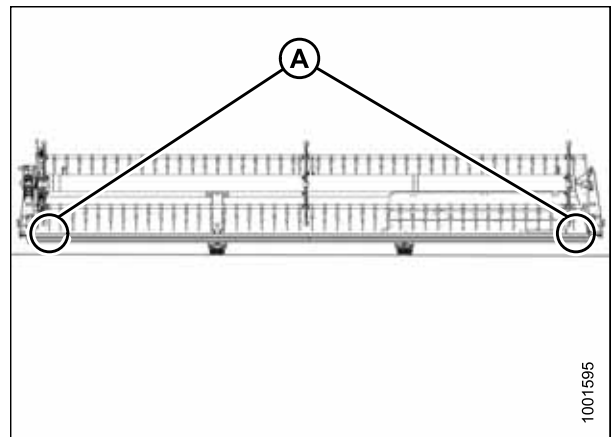

Figure 5.36: Single Reel Measurement Locations (Two Places)
5. Measure the clearance (X) at all possible points of contact (between points [B] and [C] at the ends of each reel [A]) as shown in Figures 5.36, page 129 and 5.37, page 129.